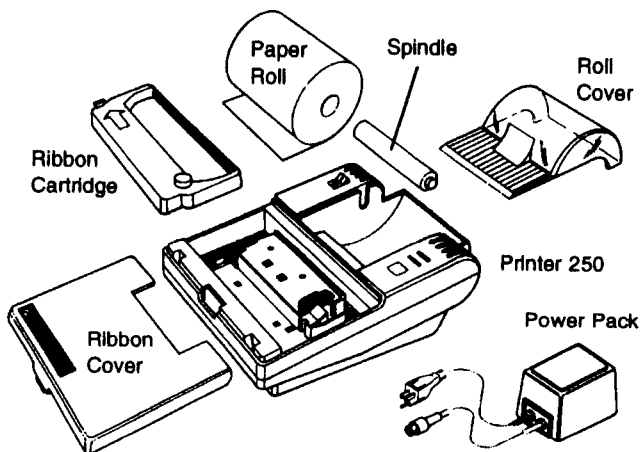

Figure 2. Printer 250 Components
1. With the shipping carton right side up, open the carton's lid and remove its contents. You should have: the components shown in Figure 2.